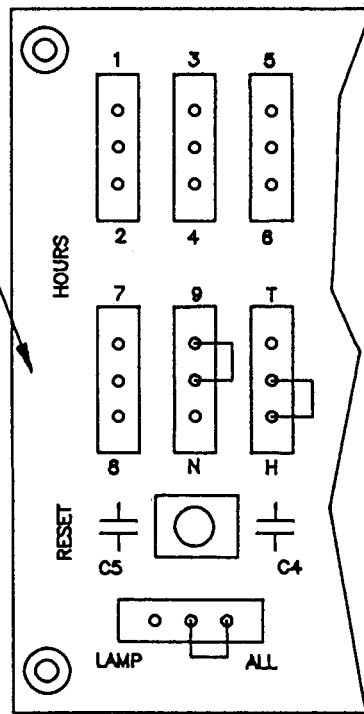

Fig.7. ELAPSED TIME INDICATOR RESET
The elapsed time indicator has been factory programmed to count in .1 hour increments from .1 to 9,999.9 hours, at which time it will return to 0 hours. It has also been programmed to activate the "CHANGE LAMP" indicator every 900 hours. If you wish, you may reprogram the "CHANGE LAMP" indicator to activate in any hundred or thousand interval from 100 to 9990 by repositioning the jumpers located on the back of the digital control panel. See figure 7.
1. Select *hundreds* or *thousands* by positioning the jumper on the "T and H" switch. Example: with the jumper plugged into "H" and the center pin you can set the indicator to activate between 1001 and 1000 hours. See figure 7.
2. Select the actual activation time by positioning the jumper on the "HOURS" switches. Example: with the jumper plugged into "9" and the center pin, and the former jumper positioned on "H" and the center pin, the "CHANGE LAMP" indicator will activate every 900 hours. See figure 7.